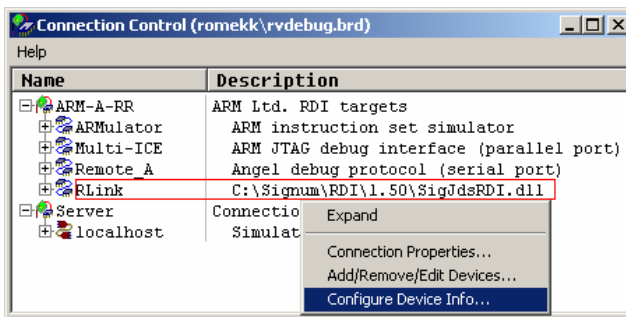

FIGURE 8 The augmented target list.
6. In the Connection Control dialog box, right-click the new connection entry and select Configure Device Info from the popup menu (Figure 8).